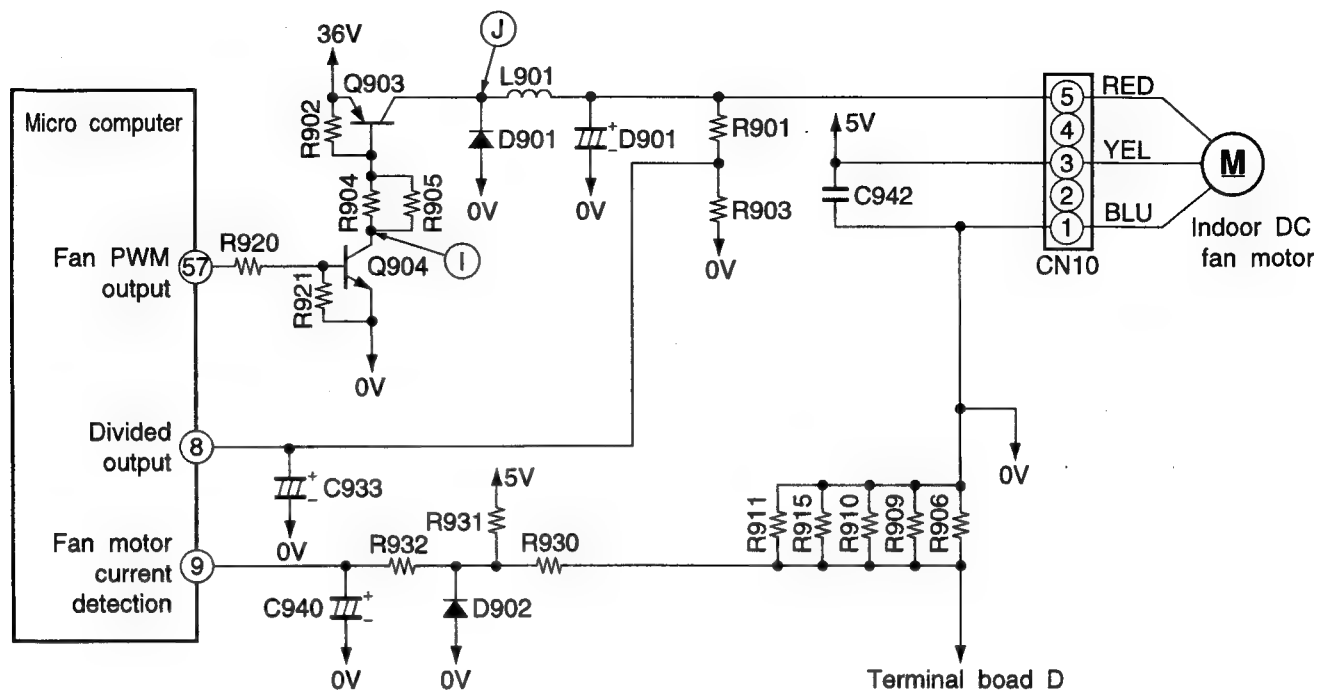

Fig. 9-1
- Fig.9-1 shows the indoor DC fan motor drive circuit.